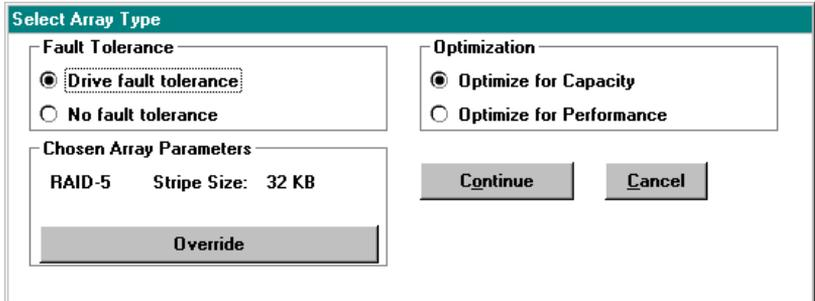

Figure 3-6 Select Array Type Window
- 1 Select the **Create Array Group** button. The Select Array Type window appears, as shown in Figure 3-6.